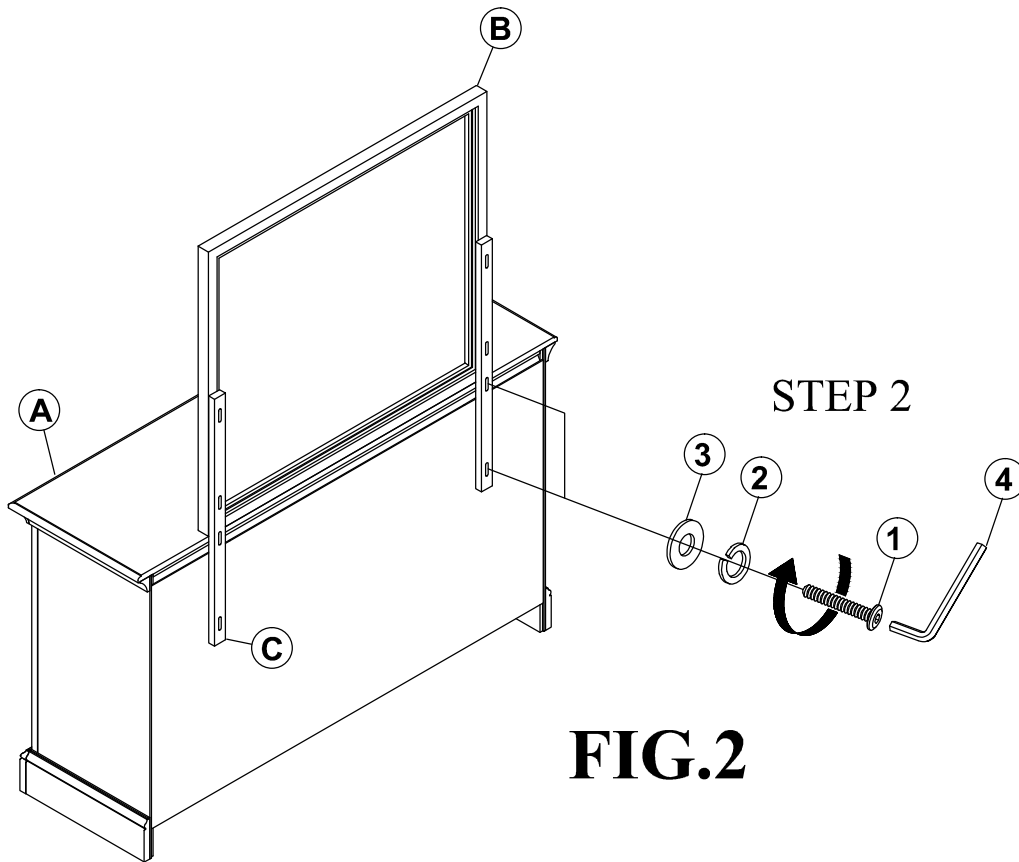

FIG.2
STEP 2: Attach the Mirror assembly (B&C) to Dresser (A) using the provided hardware shown on FIG.2